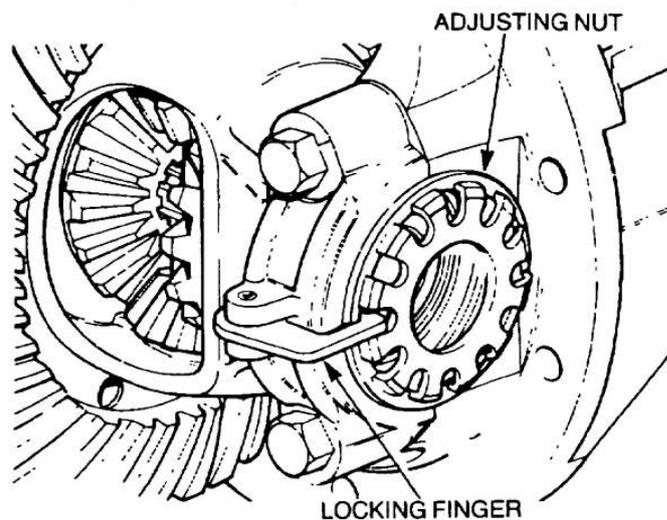

Figure 268 Installation of the Locking Finger
- z.** Fit the adjusting nut locking fingers bending the ends to engage the slots if necessary (Figure 268) and insert new roll pins. Do not alter the position of the adjusting nuts.